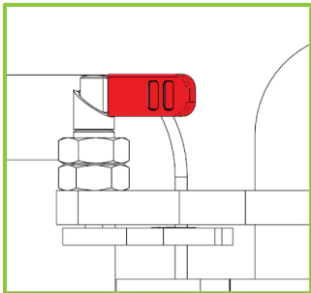

Figure 2 – ClickLock plunger locked
- ClickLock plunger (Figs 2 & 3).